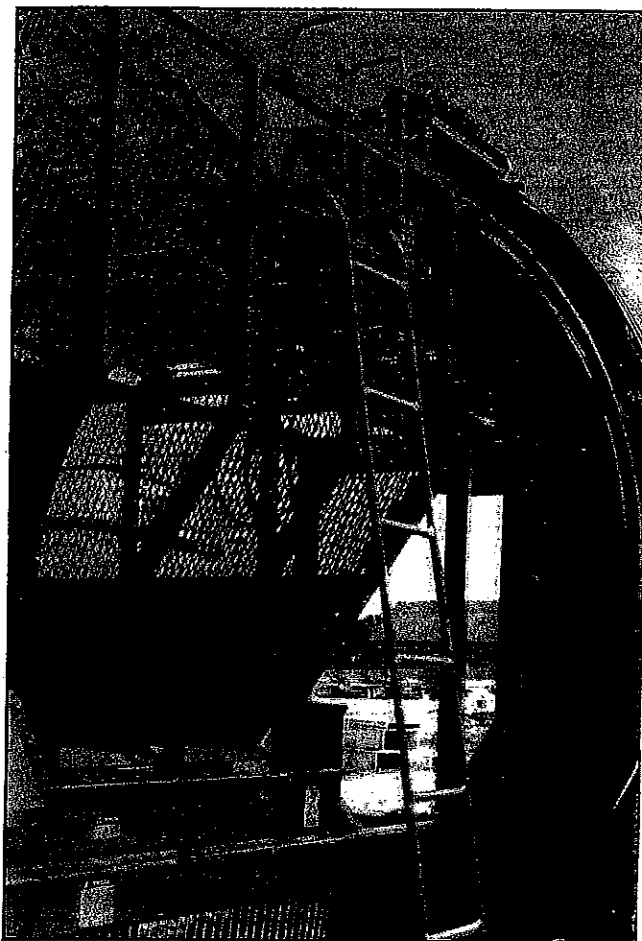

FIGURE 49 - LADDER ASSEMBLY
Attach ladder and ladder extension to tank (see Figure 49, page 33). Use two (2) 3/8" x 2" carriage bolts and two (2) 3/8" flange lock nuts to loosely join ladder and ladder extension together. Put two (2) 3/8" x 1" carriage bolts and two (2) 3/8" flange lock nuts into ladder extension. Slide assembly onto ladder mounts and secure in place. Then pivot lower ladder support out and secure to ladder brackets using two (2) 3/8" x 1" carriage bolts and two (2) 3/8" flange lock nuts.